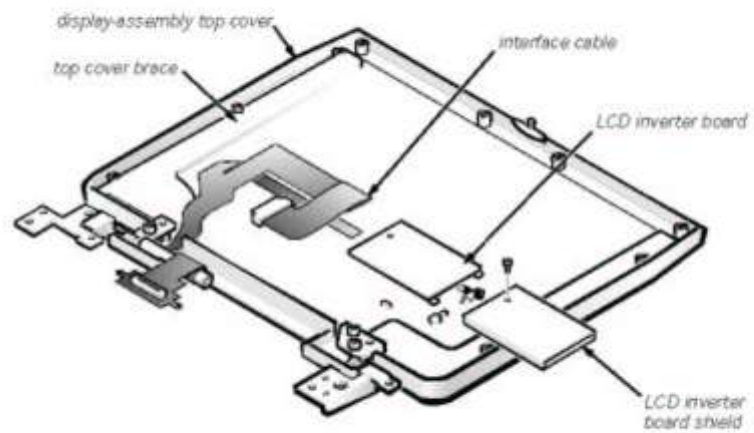

Figure 4-22. LCD Inverter Board Removal (13.3-Inch Display)
- 5. If you are removing the display-assembly interface cable from a 13.3-inch display, remove the left top-cover brace from the display-assembly top cover (see Figure 4-22).**